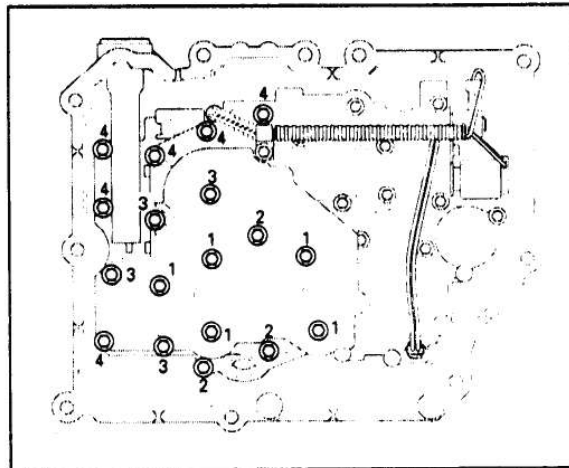

Figure 113
7. Use the sequence pattern as shown in Figure 113 for torquing pump.